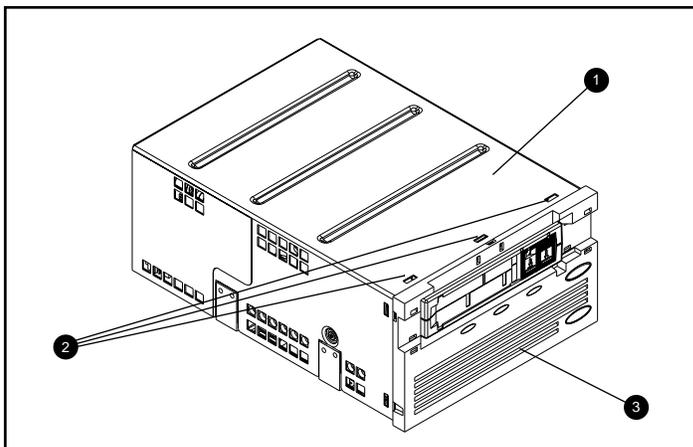

Figure D-1. Removing the bezel
The bezel is removed by simultaneously pulling on the bezel ❸ and depressing the locking tabs ❷ which secure it to the drive cover ❶ (see Figure D-1). There are seven locking tabs which secure the bezel to the drive cover.